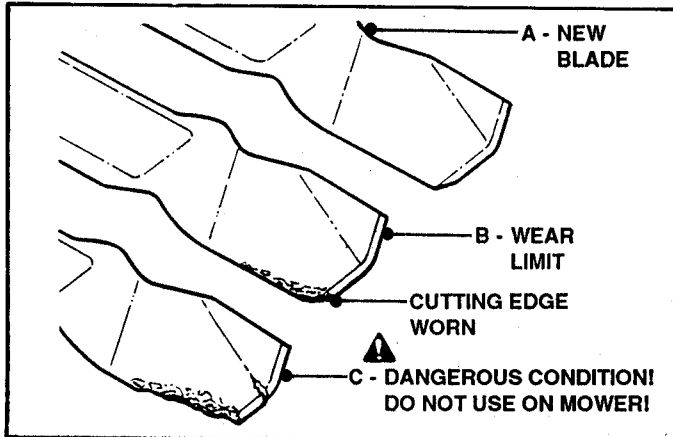

FIGURE 12
2. Replace Blade if badly chipped, bent, out of balance, or as soon as notch starts wearing in the tip between the flat surface and upturned lift as shown in Figure 12. This type wear pattern occurs more rapidly under sandy soil conditions.
10. To reposition handlebar for mowing, fold handle back into mowing position and tighten knobs. Check cables for any kinks or bends. Refer to Figure 12.